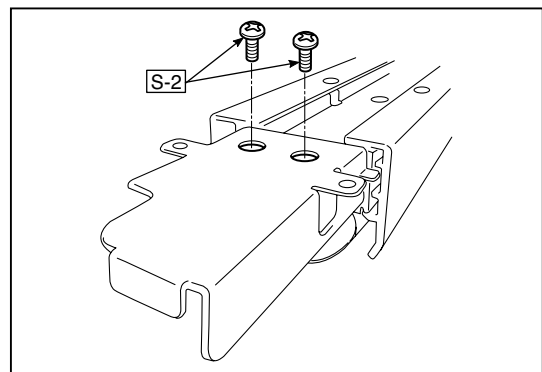

Fig.19
2.Remove the “S-2” screws shown in the figures19 and 20 and then remove the CIS Unit.